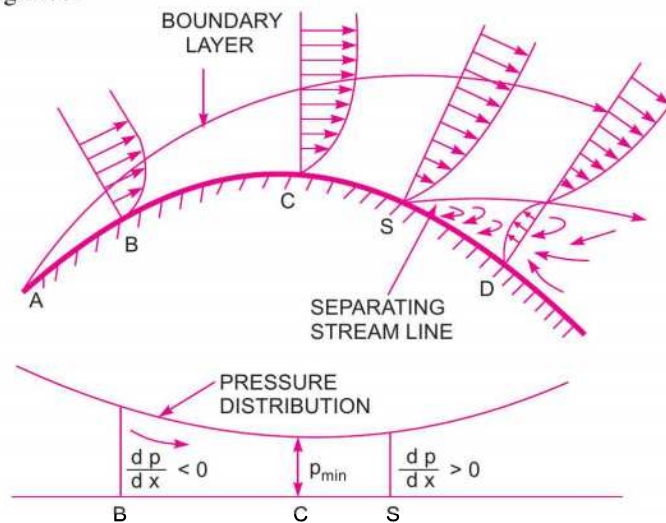

Fig. 13.7 Effect of pressure gradient on boundary layer separation.
curved surface  $ABCD$  as shown in Fig. 13.7. In the region  $ABC$  of the curved surface, the area of flow decreases and hence velocity increases. This means that flow gets accelerated in this region. Due to the increase of the velocity, the pressure decreases in the direction of the flow and hence pressure gradient  $\frac{dp}{dx}$  is negative in this region. As long as  $\frac{dp}{dx} < 0$ , the entire boundary layer moves forward as shown in Fig. 13.7.
**13.7.3 Methods of Preventing the Separation of Boundary Layer.** When the boundary layer separates from the surface as shown in Fig. 13.7 at point  $S$ , a certain portion adjacent to the surface has a back flow and eddies are continuously formed in this region and hence continuous loss of energy takes place. Thus separation of boundary layer is undesirable and attempts should be made to avoid separation by various methods. The following are the methods for preventing the separation of boundary layer :